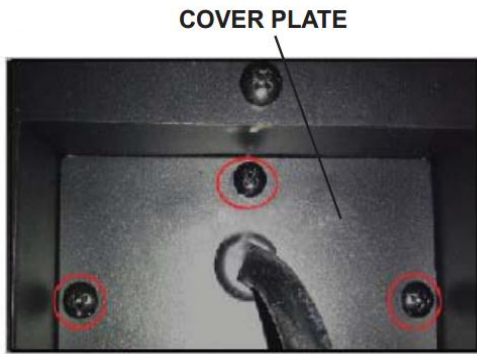

Fig 5-1
- A. Remove the cover plate from the right side bottom of the appliance by removing the three screws, as shown above. **Fig 5-1**